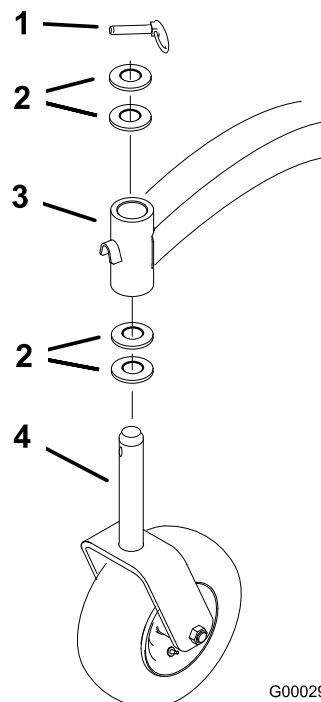

Figure 45
2. Remove the locking pin and spacer(s) from the top of the caster wheel fork (Figure 45).
6. Inspect the caster wheel fork for wear and replace if necessary (Figure 45).
7. Slide the caster wheel fork through the bushings in the mounting tube. Replace the spacer(s) onto the fork and secure with the retaining ring (Figure 45).